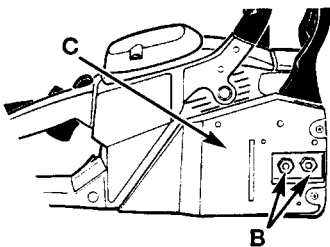
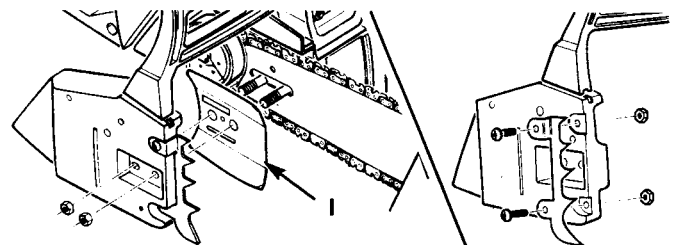
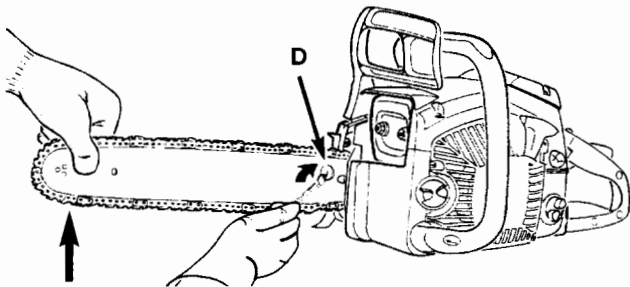

Fig. 22
Fig. 27
Fig. 28
2. Remove the 2 bar retaining nuts (B) at front of the Chain Brake® cover (C). Remove outer guide bar plate (M, Fig. 27) by pulling straight out (Fig. 22).
5. Replace the outer guide bar plate (I) so the bent edges (top and bottom) are directed away from the chain (Fig. 27).
6. Install spike on Chain Brake® cover as shown in Fig. 27 (Optional accessory).
7. Install the Chain Brake® cover (Fig. 27). Make sure the chain does not slip off of the bar. Install the 2 nuts hand tight and follow instructions in *Saw Chain Tension Adjustment*.
1. Loosen the bar retaining nut(s) (B, Fig. 22). Hold nose of guide bar up and turn adjustment screw (D) CLOCKWISE to increase chain tension. Turning screw COUNTERCLOCKWISE will decrease amount of tension on chain. Ensure the chain fits snugly all the way around the guide bar (Fig. 28).